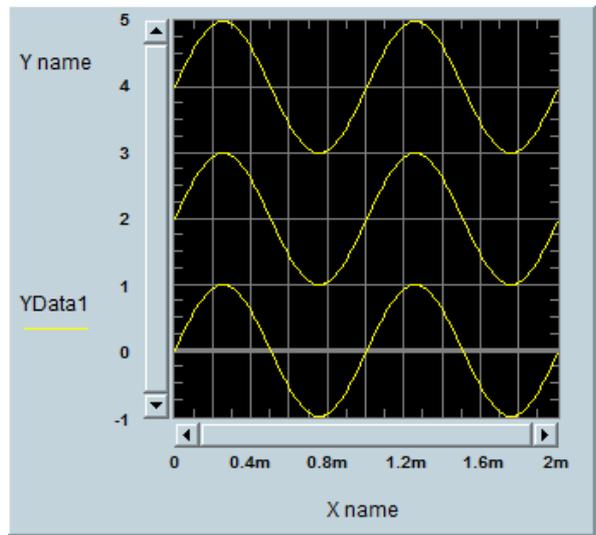

Fig. 7: The output of the VEE program
10) Using VEE, generate a **1kHz sine** wave with **0 DC offset, 0 phase angle, 2 milliseconds time span** and **256 sample points** using **Function Generator** object. Then use this generator to display three sine waveforms with 0, 2 and 4 V DC offset in the same figure in 0-2 milliseconds time range. When you run the program, you should observe the waveforms as in Fig. 7. **Include the screenshots to show that you fulfilled this task fully and completely.**